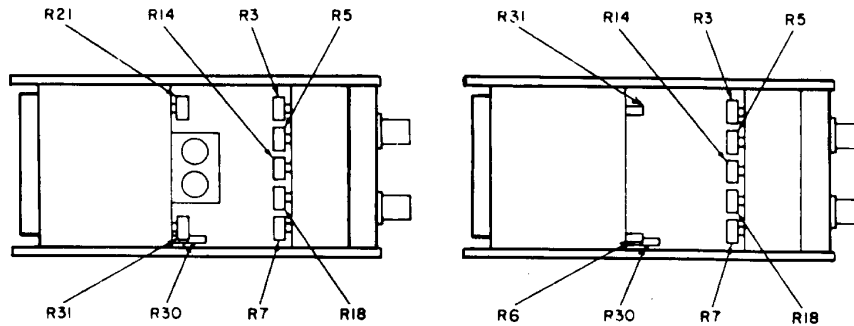

Figure 3. Adjustment locations - top view.
R18 affects all ranges and R30 affects ranges above 0.15 V. Because of interaction, adjustment of R18 and R30 (fig. 3) may have to be repeated until TI voltage indications are within specified limits.
- (1) Adjust R21 (fig. 3) fully ccw, then adjust approximately 20 degrees cw (only SN 0982A22438 and below) (R).
- (2) Adjust **ZERO ADJ** (rear of TI) for 0 meter deflection (may not appear on TI below SN 550).
- (3) Adjust **ZERO ADJ** to return meter pointer halfway back to 0. For SN 0982A22439 and above, adjust R6 (fig. 3) until TI meter indicates 0 with **FUNCTION** switch in both **+DCV** and **-DCV** positions.
- (4) Set calibrator for a 15 mV output.
- (5) Adjust R18 (fig. 3) for a 0.015 V indication on TI (R).
- (1) Adjust R31 (fig. 3) for 0 indication on TI (R).
- (2) Fine adjust **AC ZERO** control for 0 indication on TI.
- (3) Adjust calibrator for a 0.5 V indication.
- (4) Adjust R3 (fig. 3) for a 0.5 V indication on TI (R).